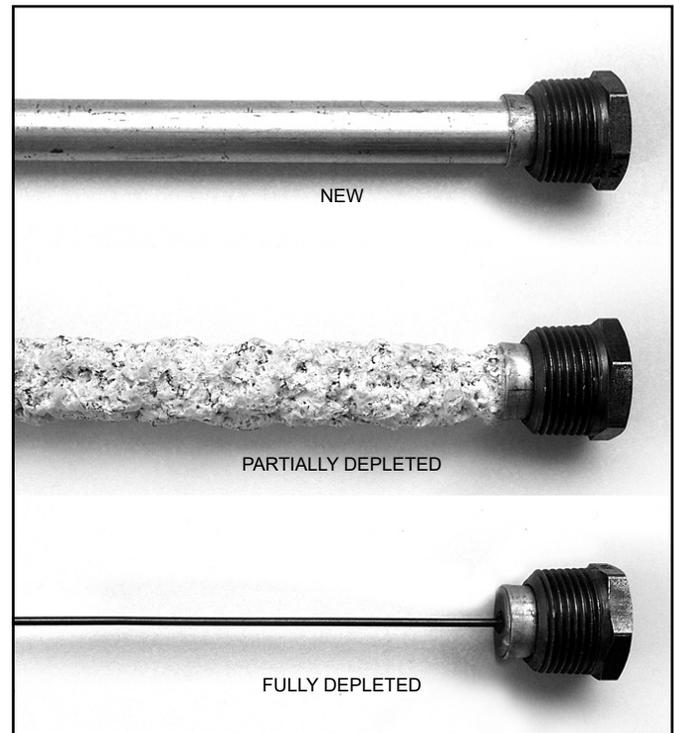

Figure 54.
**Anode Rod.** The anode rod is a sacrificial metal rod that helps avoid corrosion and premature failure (leaks) in the tank. The anode rod is a consumable item. Inspect the anode rod after the first six months of operation when you drain and flush the tank. Replace the anode rod if it is substantially worn out or depleted (see Figure 54). Thereafter, inspect the anode rod annually or more frequently if needed. If you use a water softener, your anode rod will deplete faster than normal. Inspect the anode rod more frequently, replacing the anode rod if it is depleted. Once the anode rod is depleted, the tank will start to corrode, eventually developing a leak. Obtain a new anode rod from your local plumbing supplier or have a qualified person replace it. (Anode rods are a consumable item and are not covered under warranty).